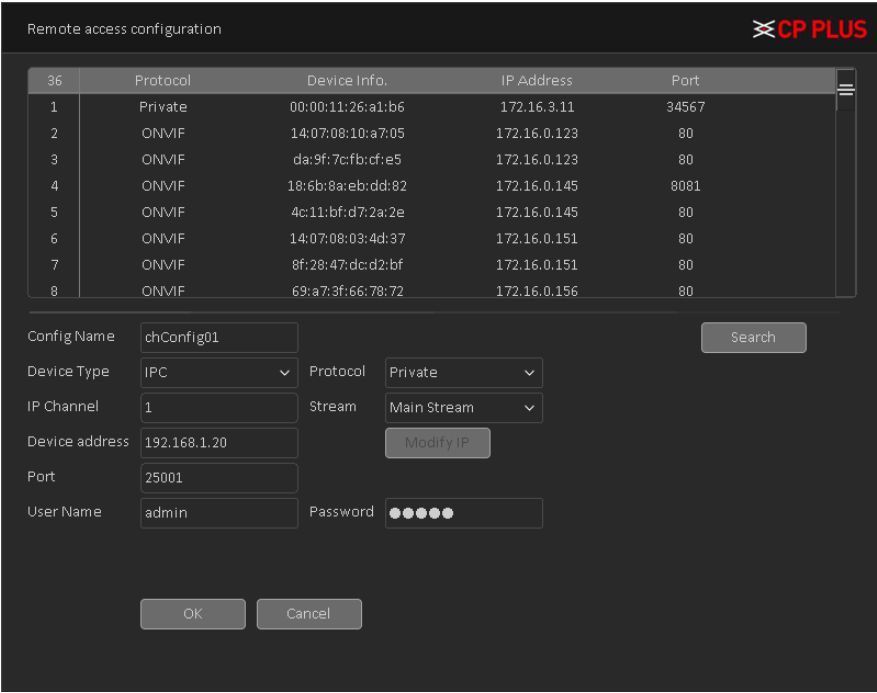

Figure 4.8
- **[Search]** Click the Search button, the following will show the device as shown Figure 4.8, the user can double-click the device IP connections want according to their needs, and you can add the device.